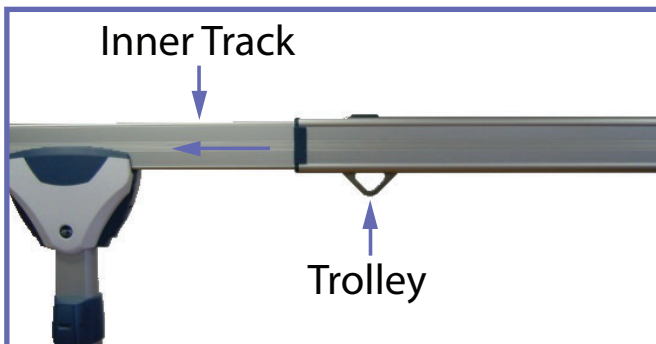

Fig. 13
- Trolley position should be as shown in "Fig. 13". If not, make sure that inner track is extended. Trolley will become free of its transportation slot. If it does not, shake the trolley lightly left and right to release it. Trolley should move freely at this point.